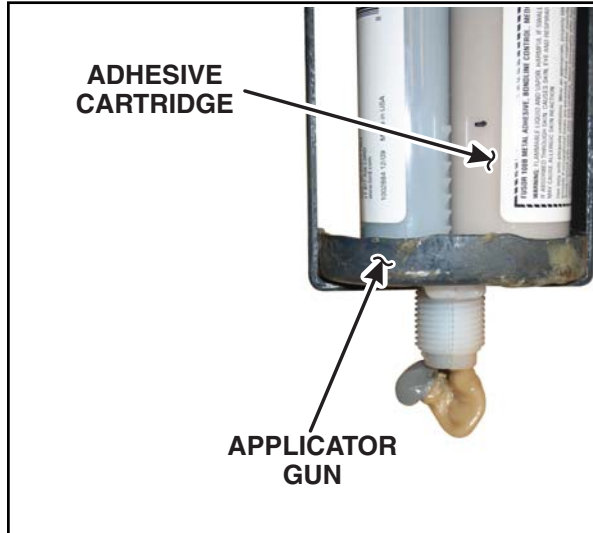

FIGURE 4A
3. Squeeze out a small amount of adhesive to ensure both sides of the adhesive cartridge are flowing equally. See Figure 4A.